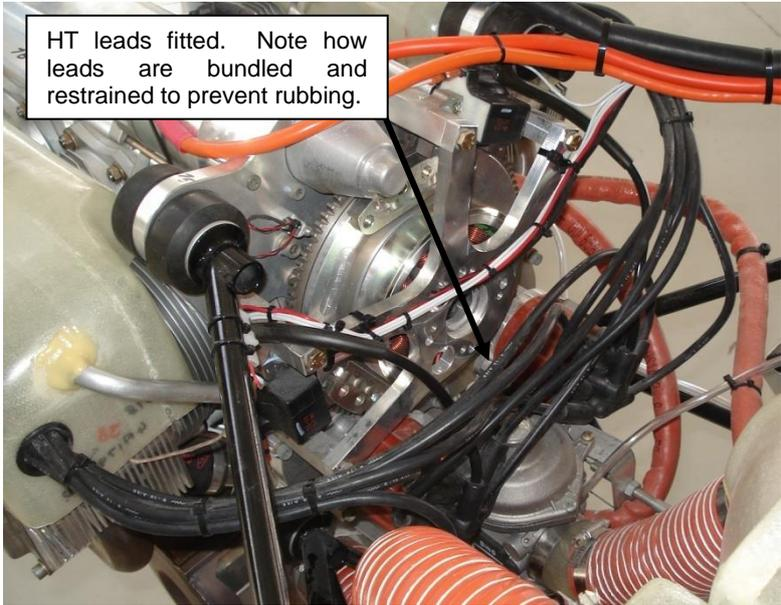

Figure 200 – HT Leads Fitted To Engine
- Assemble the high-tension leads onto the engine, cable-tying them as shown in Figure 200.